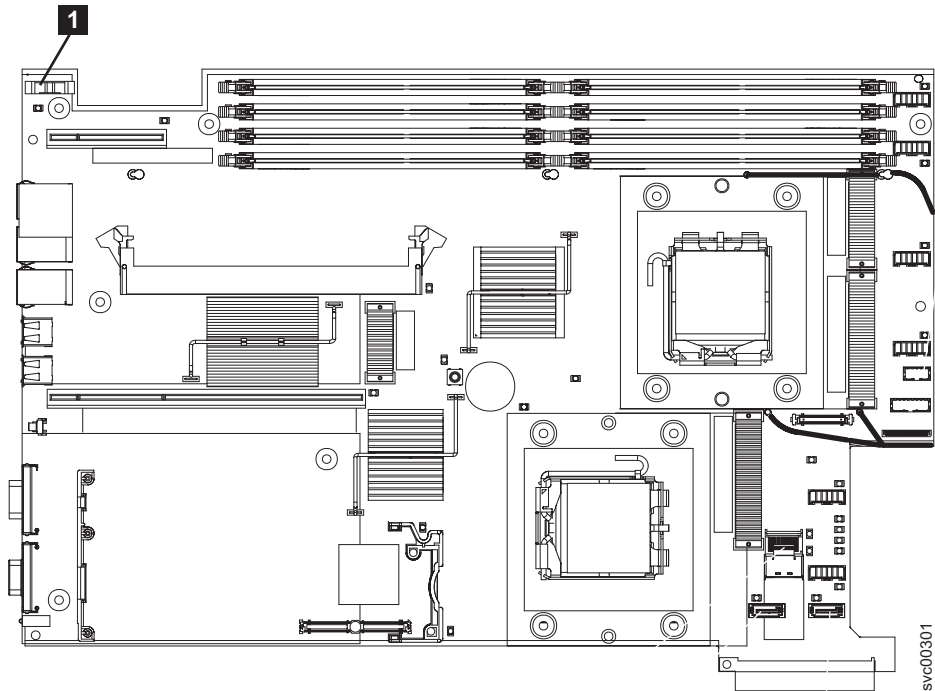

Figure 171. Location of SAN Volume Controller 2145-8G4 CMOS battery holder
3. Locate the battery **1** on the system board. Figure 171 on page 502 shows the location of the battery.